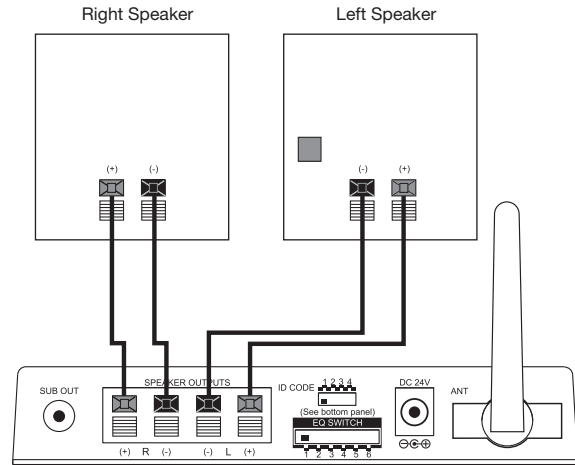

Figure 2.
Connect speaker wire (not included) to the push terminals on the receiver module ① and to the connectors on your speakers, as shown in Figure 2. Please note that speaker wire features some form of a polarity indicator to help distinguish its two conductors. Use this polarity indicator to ensure that you are connecting the positive (+) terminal on one speaker to the positive (+) terminal on the other, and the negative (-) to the negative (-).